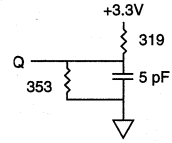

Fig. 2 OUTPUT LOAD EQUIVALENT
- ¹HZCE, ¹HZOE and ¹HZWE are specified with C_L = 5pF as in Fig. 2. Transition is measured ±200mV from steady state voltage.